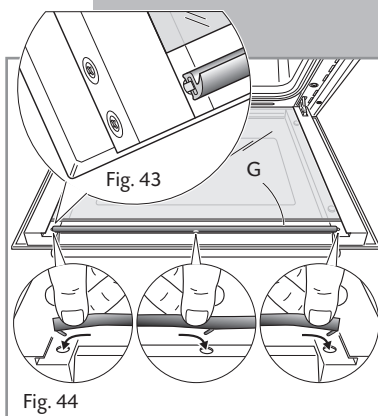

Fig. 43
- Reassemble the seal **G** in the correct way (fig. 43) by hooking the no. 3 fixing hooks in the proper holes (fig. 44).